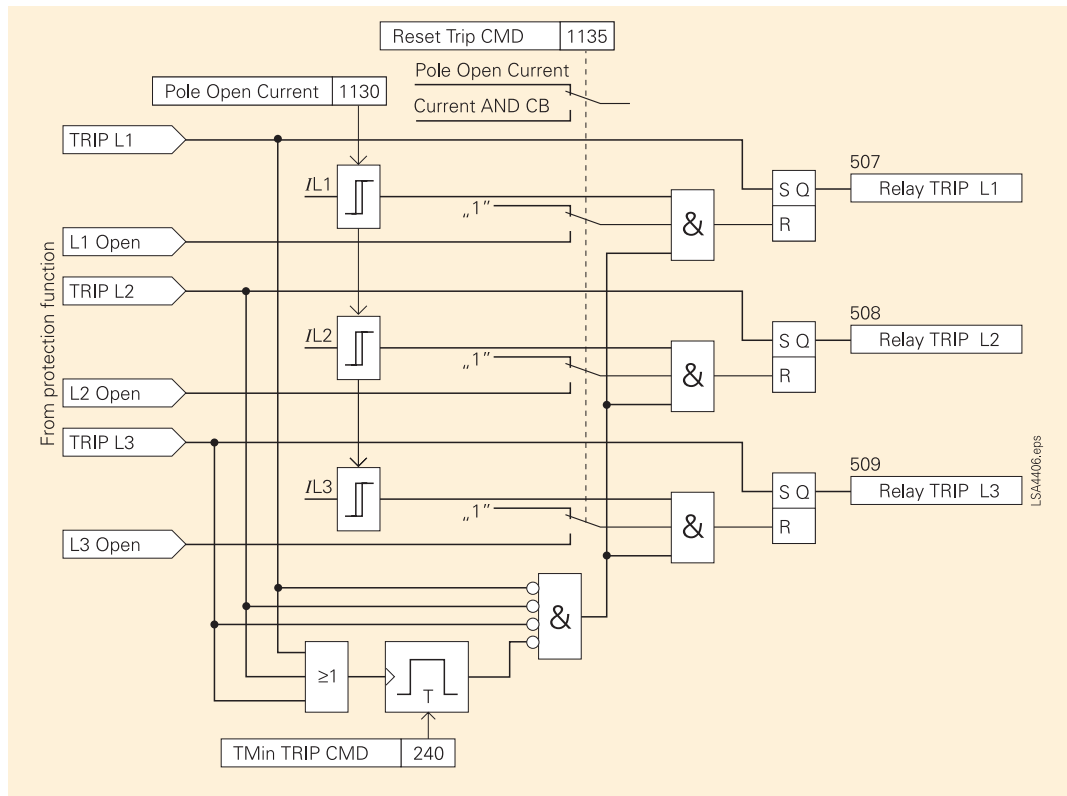

Fig. 9 Trip command seal in
- When primary current flow is detected (measured current > pole open current: Parameter 1130) then the trip command is sealed in by the current flow and will only reset once the current flow is interrupted (refer to Figure 9). When the trip command is issued and no current flow is detected, the minimum trip command duration set here will apply. It must be set longer than the maximum time taken for the CB auxiliary contacts to open and interrupt the current in the trip coil following the start of the trip command. The reset conditions for the trip command can be set with parameter “1135 RESET of Trip Command”. From Table 2 the given circuit-breaker operating time is seen to be 60 ms. A safety margin of 50 ms is sensible so that a setting of **0.11 s** is applied.